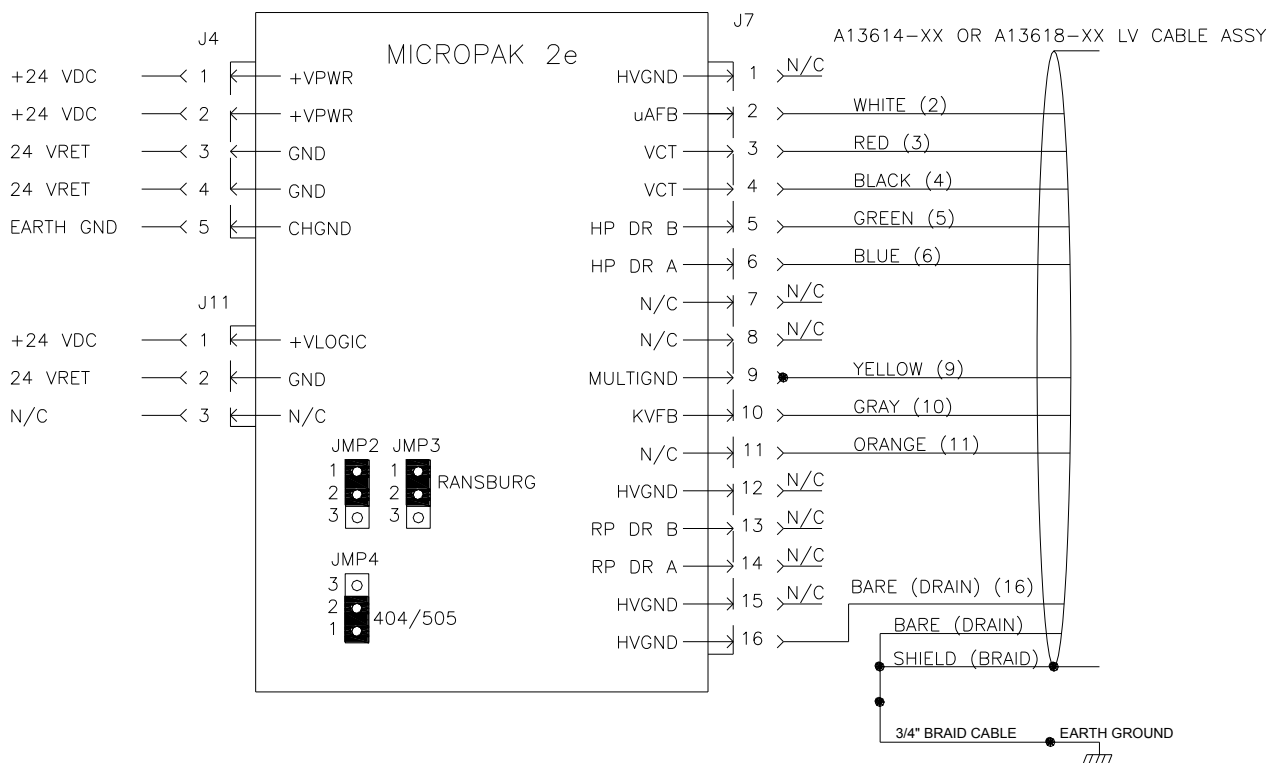

Figure 10: MicroPak 2e Controller W/HP404, RP-404 & HP505 Cascade
1. The Power Supply must be referenced to true earth ground at only one point, through the controller's chassis ground connection. (Refer to Figures 10, 11, and 12 for Grounding Connections.)